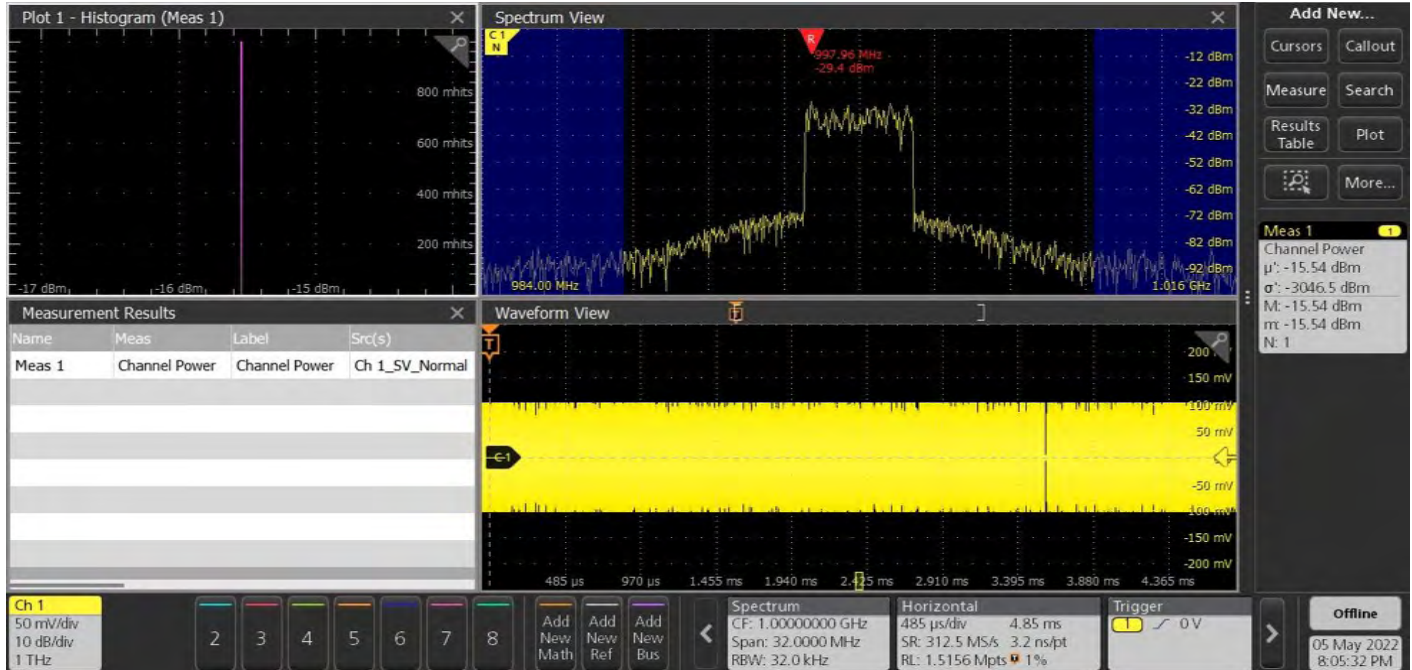

Figure 18. Channel Power provides the sum of the total average RF power in a given channel, within the defined channel width. Expressed in dBm.
In addition to the ability to add cursors and traces to RF vs. time waveforms, Spectrum View includes three fundamental RF transmitter measurements which are intended to simplify the validation of RF front ends: Channel Power (CP), Adjacent Channel Power Ratio (ACPR) and Occupied Bandwidth (OBW). **Figures 18 through 20** show examples of each measurement.